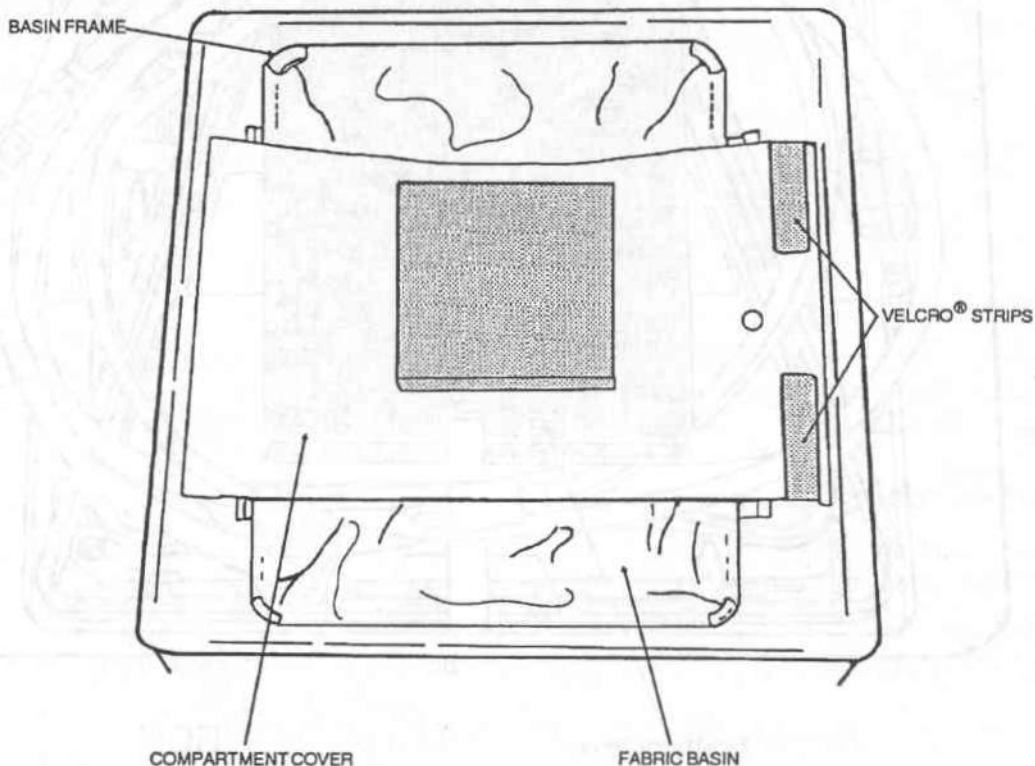

Figure 2-1. Case lid compartment packing configuration.
- d. Observe how the components are packed by studying the illustrations in figures 2-1 and 2-2.
- e. Unpack the lid of the case (fig 2-1) by pulling the two VELCRO® straps upward and opening the compartment cover. Remove the basin and set it aside. Close and fasten the compartment cover. Set the lid of the case aside.